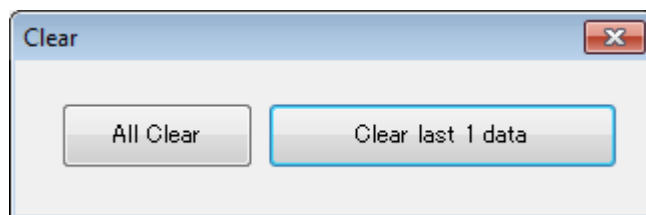

Fig.3-13
- (2) Click , then you can start recording.
- (3) Click , then you can stop recording.
- (4) Click , then you can get data voluntary.
- (5) Click , then you can save recorded data. For details, see “File” in the contents.
- (6) Click , then you can choose “All Clear” or “Clear last 1 data” (Fig.3-13)